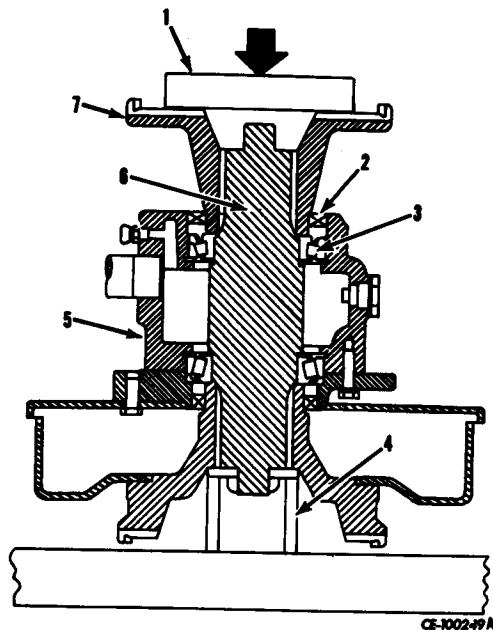

Figure 5-31
Position transfer drive assembly, input yoke down, in arbor press (Fig. 5-31). Use a suitable spacer (4) between yoke retainer and press table. Press pressure should be on spacer not yoke ends. Position bearing (3) on shaft (6) and slide output yoke (7) on shaft splines. Position a suitable adapter (1) on yoke and carefully, using yoke as a driver, press bearing cone into cups.